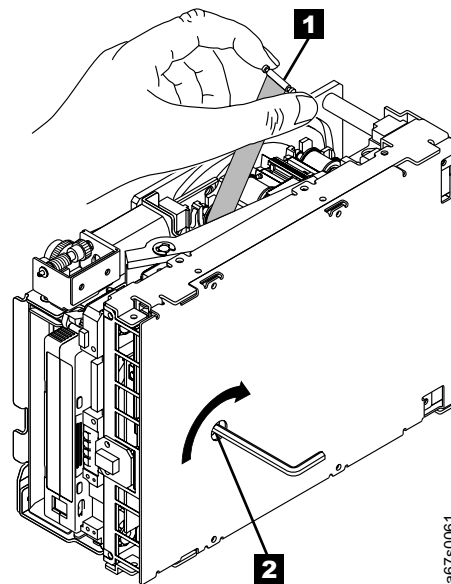

Figure 25. Rewinding the Leader Pin into the Tape Cartridge
4. Place the tape drive so that the front faces you, then tilt it on its left side (see Figure 25).
5. At the bottom of the drive, locate the access hole (**1** in Figure 25).
7. With clean needle-nose pliers, grasp the end of the leader pin and pull it out of the cartridge so that you can grip it with your fingers (see **2** in Figure 25).